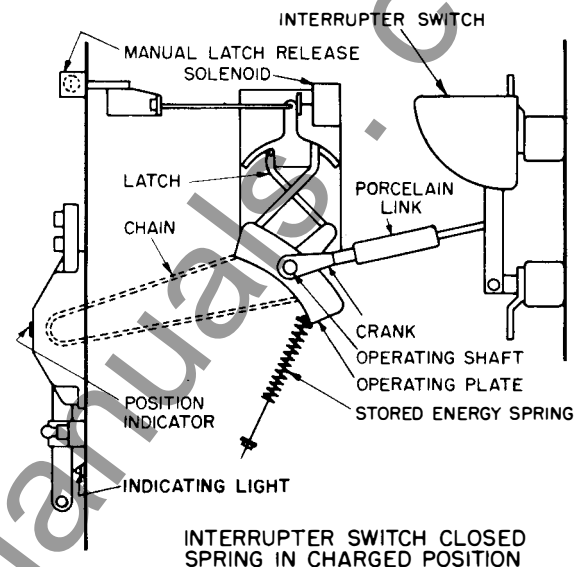
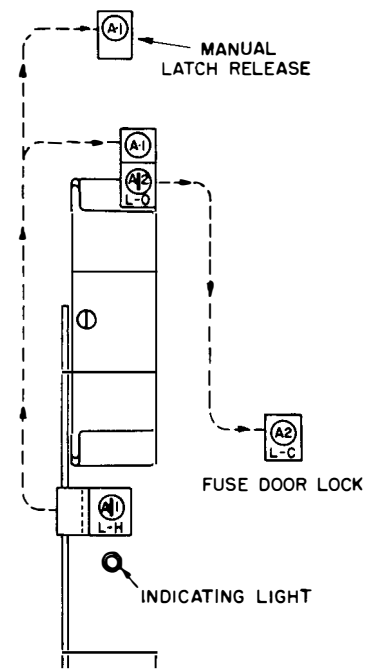

Fig. 6
Fig. 7
When standard mechanism is supplied with latch (Fig. 6), operation of the stored-energy device is the same as described on Page 1 for Manual Operation, or Page 2 for Motor Operation. The addition of latch to mechanism permits capture of stored-energy spring for either an opening or closing switch operation by means of a solenoid. When motor is used to charge spring, normal operation is completely electric as described on Page 2. The safety interlock and emergency manual handle operation is described on Page 4. When motor is not supplied, manual handle must be used to charge spring after each opening or closing operation as described on Page 4. For manual means of operating latch, see Fig. 7 and description below.
Fig 7 is typical of interlocking:
- B. For manual emergency means to operate latch. Five keys are supplied, one with each lock. Before operation, 3 keys must be removed and placed under supervisory control or destroyed. Two keys remain in lock cylinders as in Fig. 7.